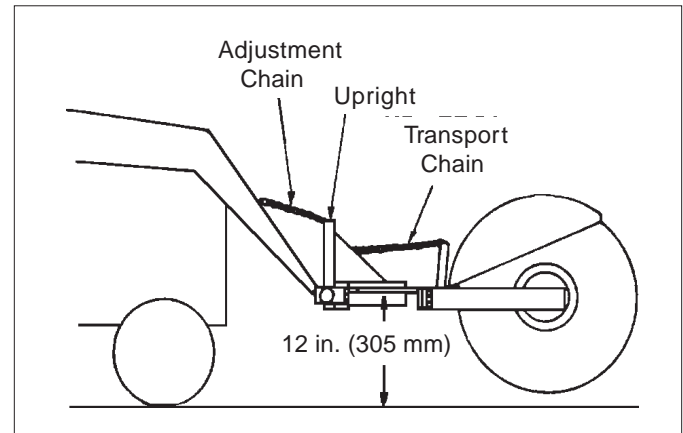

figure 1
3. Adjust the height of the mounting/swing assembly so that between the ground and the center of the brush frame there are 12 in. (305mm) ( figure 1). Contact your dealer for cylinder stops.
5. Raise the brush head assembly and adjust the transport chain (figure 1) to hold the bristle tips 2 inches (51mm) off the ground.
- If the measurements are not equal, adjust the mounting assembly upright. For measurements that resemble figure 3, put more slack in the adjustment chain (figure 1), allowing the upright to angle forward slightly. For measurements that resemble figure 4, take slack from the adjustment chain, pulling the upright back. For measurements similar to figure 5, loosen bolts holding the brush head to the swing assembly and move the low end up in the slots.